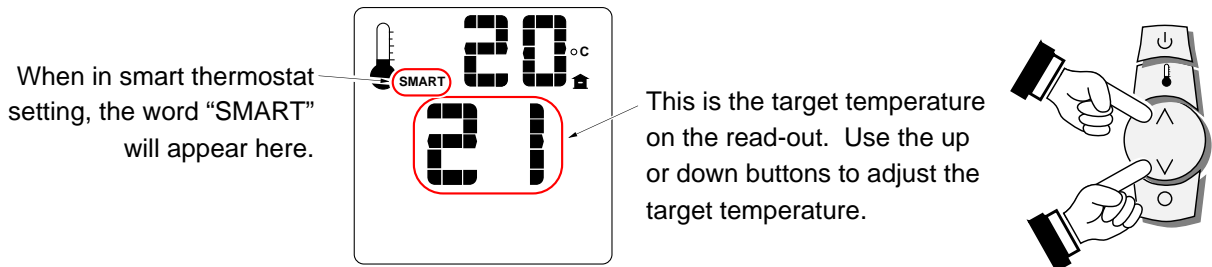

Figure 7
- SMART THERMOSTAT** – While in smart thermostat, the transmitter will control the burner to achieve the target temperature (see Figure 7 below). Flame height will be adjusted up or down to allow operation without turning the burner on and off (also called "smart modulation"). To adjust the target temperature, press the up and down buttons until a suitable temperature is achieved.